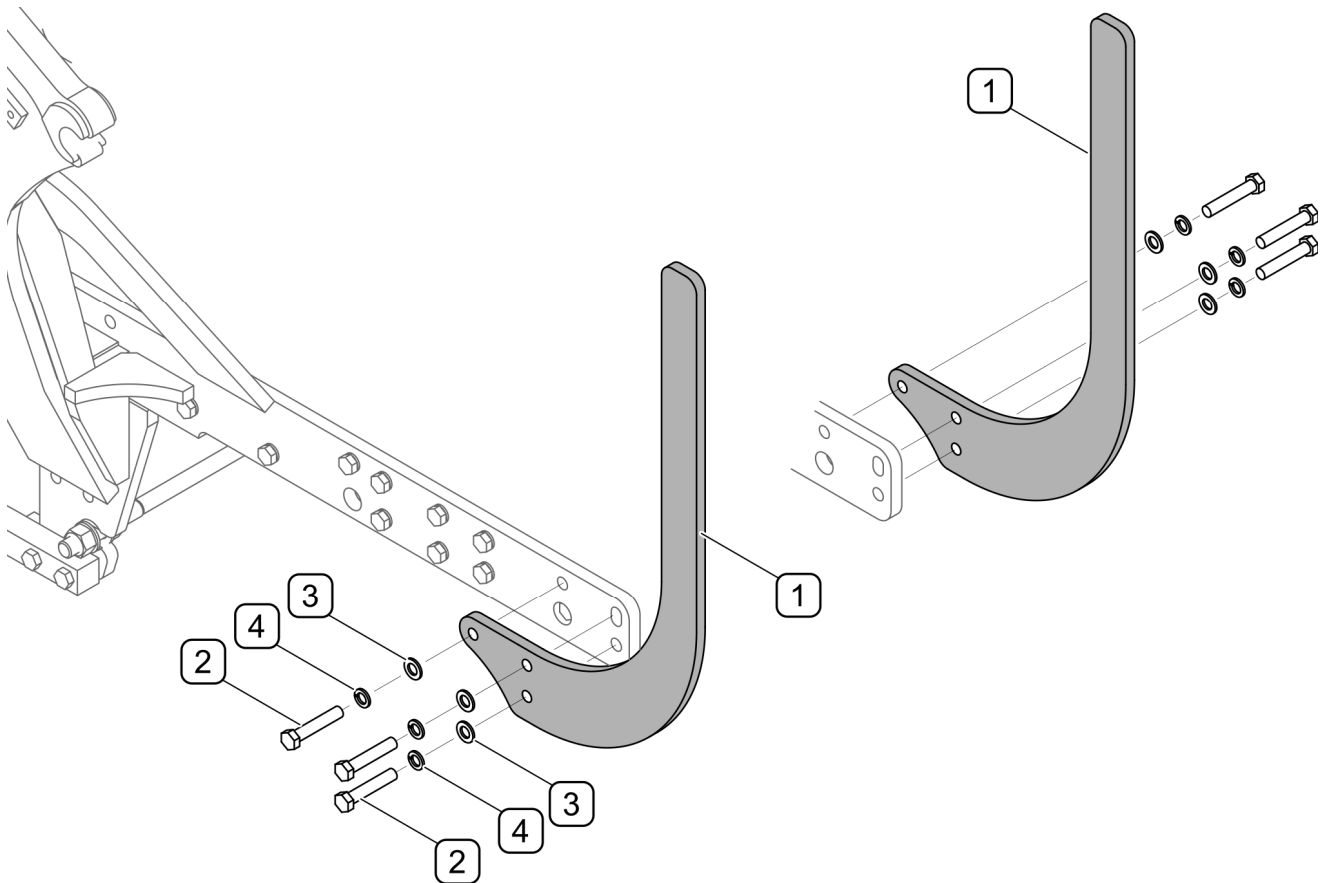

FIGURE 4.28 Bumpers (Pronar 1221A / 1221All / 1523A i Belarus 1221.3 /1523.3)
In Pronar 1221A / 1221All / 1523A and Belarus 1221.3 / 1523.3 tractors, the bumpers (FIGURE 4.28) are attached to the front part of the support frame using bolts (2) with washers (3) and (4).